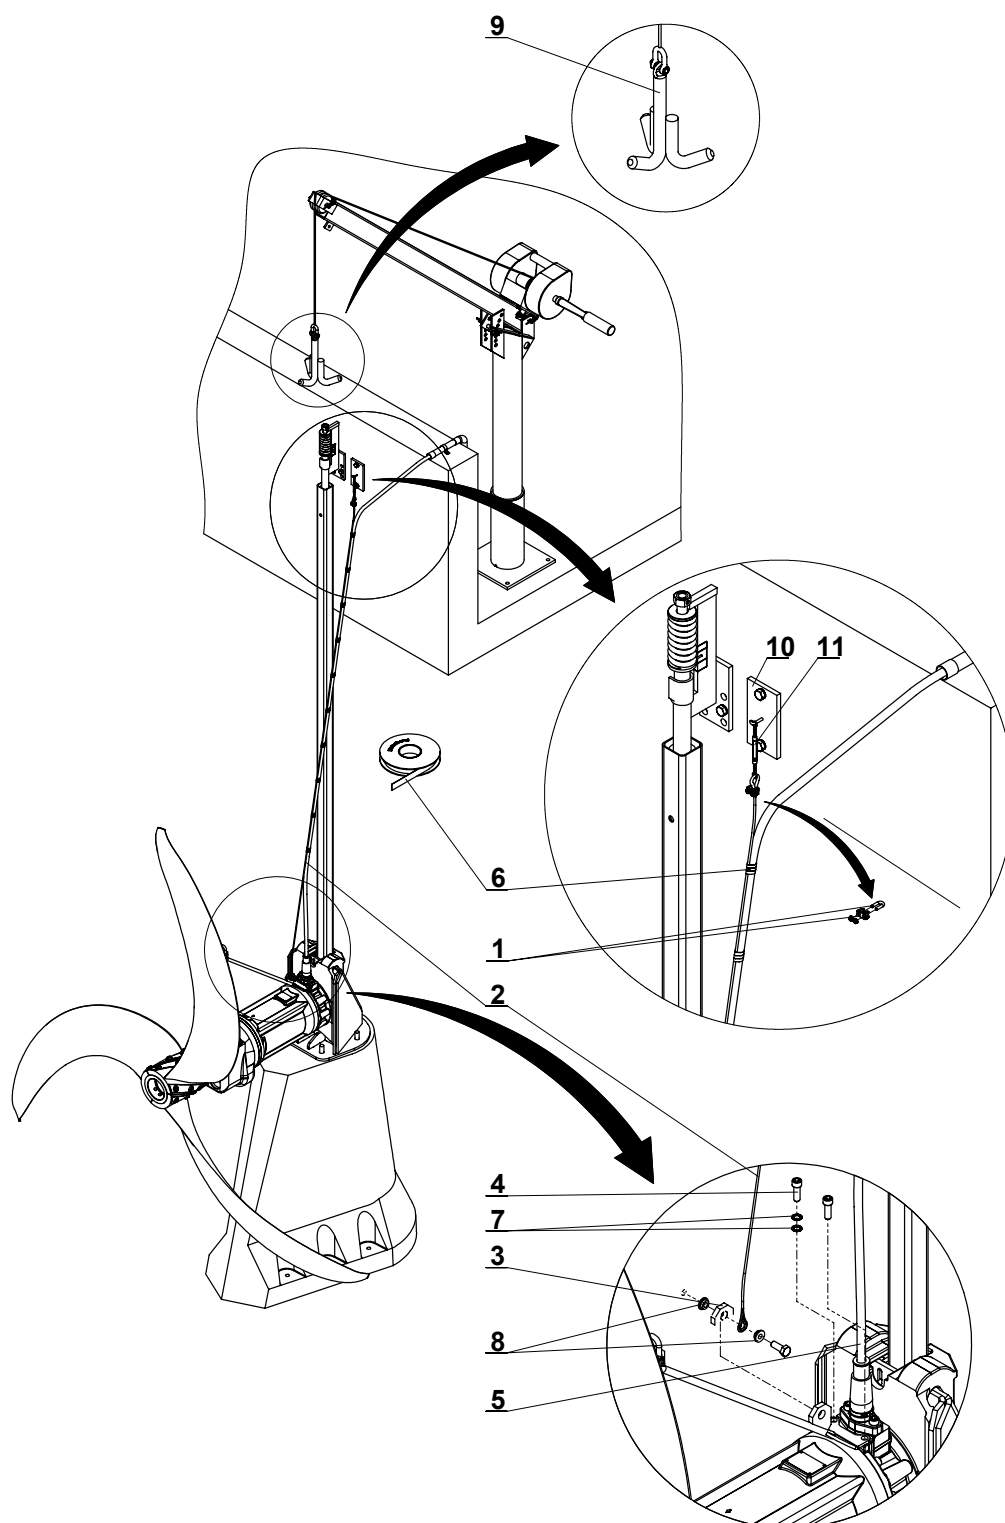

Figure 16 Fitting of cable tensioning device
- Finally fasten the motor power cable to the stainless steel cable using the special adhesive tape supplied (16/6) at intervals of **approx. 50 cm** as shown in Figure 16.
Direct starting in star (Figure 16)